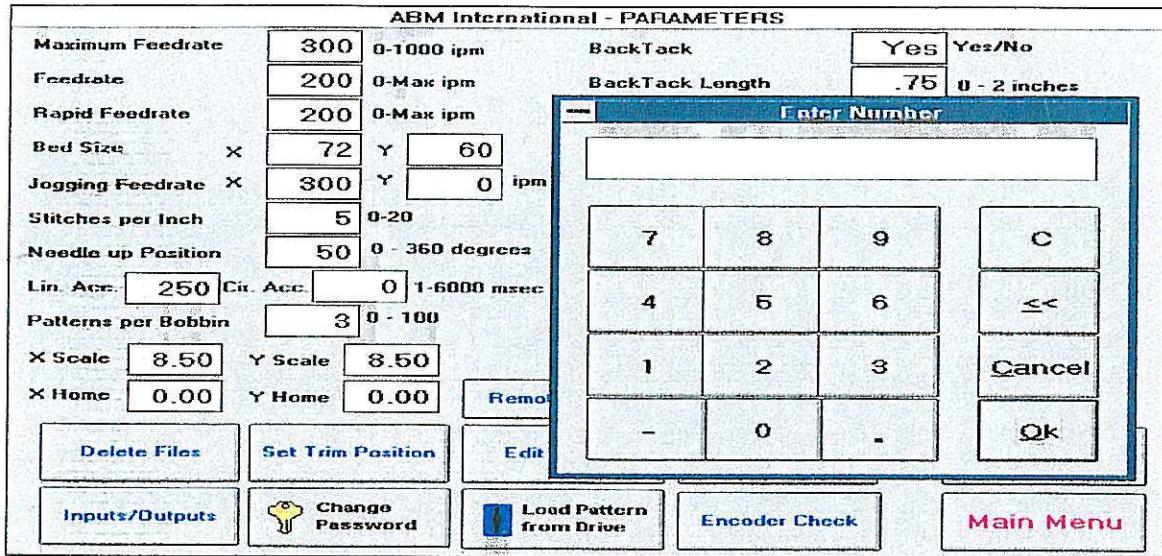

Figure 4.17
A. Press the box of the parameter to be changed. A number pad screen will appear. See *Figure 4.17*.